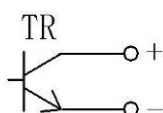

Figure 1
*1: The equivalent circuit is as the figure shown below. The maximum capacity of TR is 80V, 100mA. When connecting such as relay to two terminals, do not exceed 80% of the maximum capacity of TR. (Figure 1)